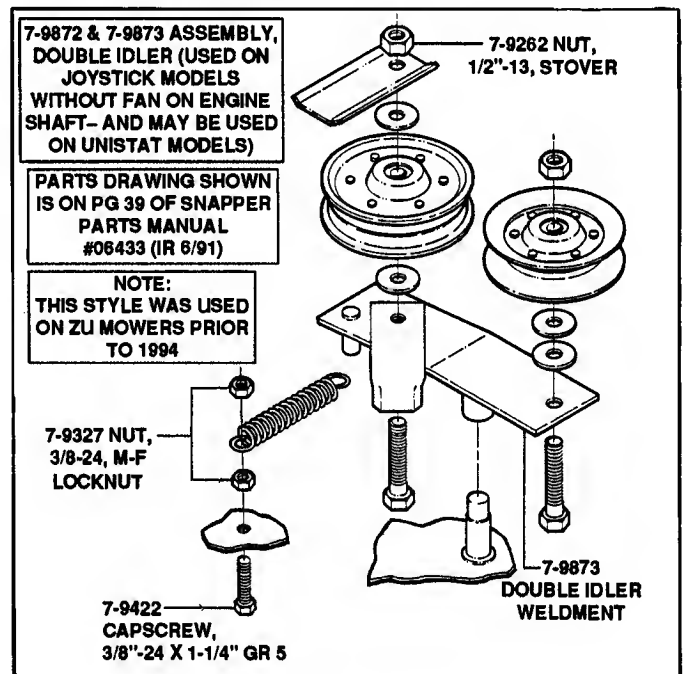

FIGURE 11.17
- (a) In appearance, the 1990 thru early 1991 double idler appears to be the same as the 1988-1990 model. It is not. The major differences are indicated by those parts called out with part numbers in Figure 11.17.